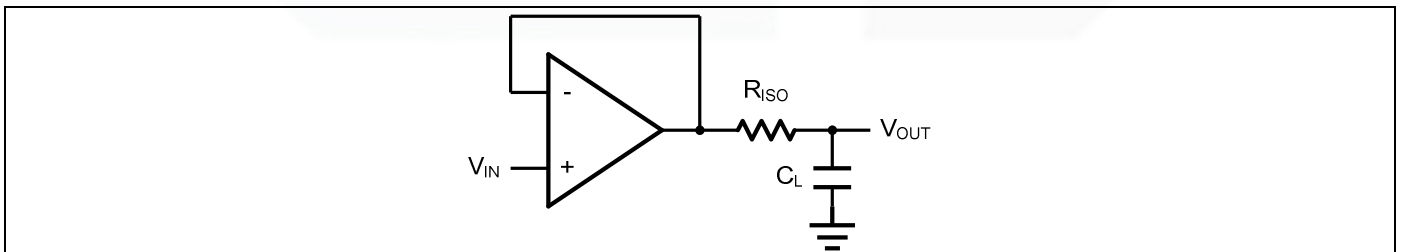
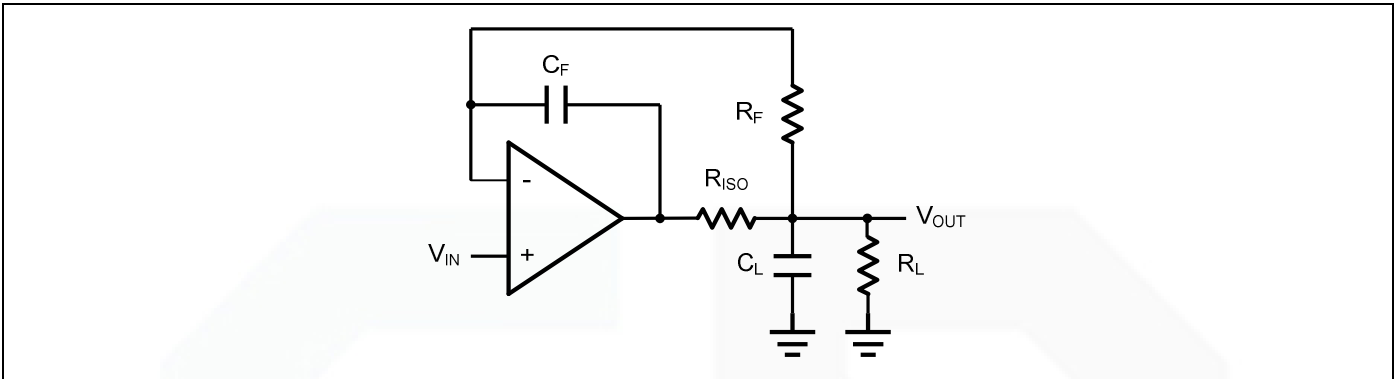

Figure 2. Indirectly Driving a Capacitive Load Using Isolation Resistor
Figure 3. Indirectly Driving a Capacitive Load with DC Accuracy
The GS8333 is optimized for bandwidth and speed, not for driving capacitive loads. Output capacitance will create a pole in the amplifier's feedback path, leading to excessive peaking and potential oscillation. If dealing with load capacitance is a requirement of the application, the two strategies to consider are (1) using a small resistor in series with the amplifier's output and the load capacitance and (2) reducing the bandwidth of the amplifier's feedback loop by increasing the overall noise gain. Figure 2. shows a unity gain follower using the series resistor strategy. The resistor isolates the output from the capacitance and, more importantly, creates a zero in the feedback path that compensates for the pole created by the output capacitance.
The circuit in Figure 3 is an improvement to the one in Figure 2. R_F provides the DC accuracy by feed-forward the V_{IN} to R_L . C_F and R_{ISO} serve to counteract the loss of phase margin by feeding the high frequency component of the output signal back to the amplifier's inverting input, thereby preserving the phase margin in the overall feedback loop. Capacitive drive can be increased by increasing the value of C_F . This in turn will slow down the pulse response.